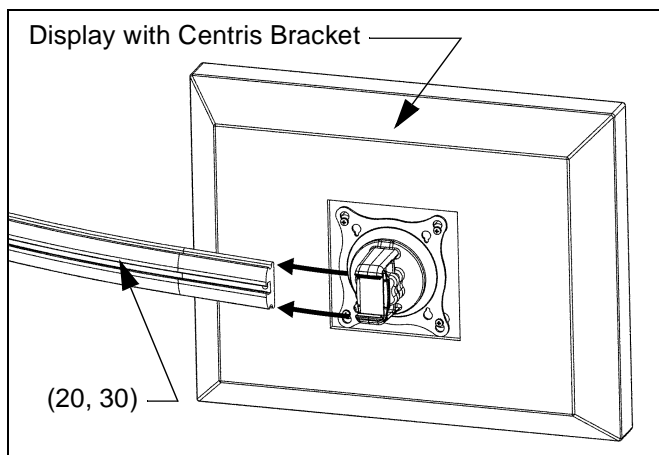

Figure 12: Mount Display with Centris Bracket to Array Rail
- Slide display with Centris bracket onto array rail (20, 30) (see Figure 12).